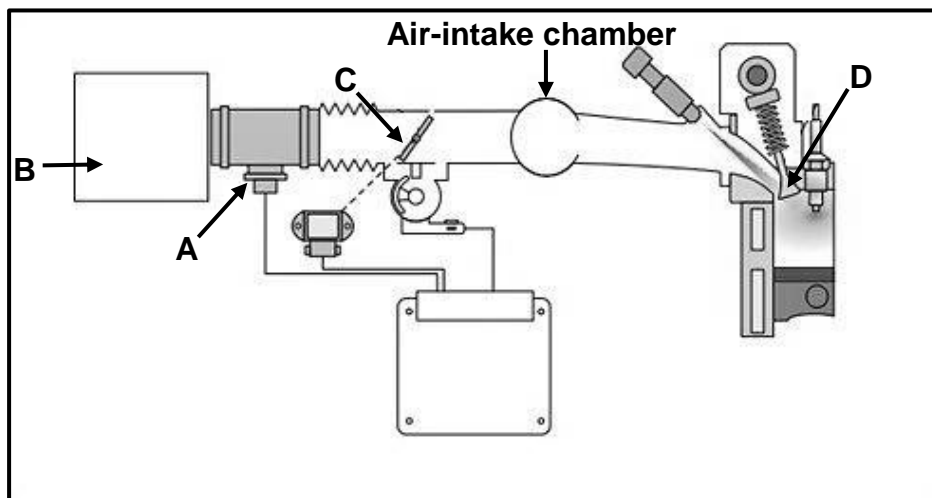

FIGURE 10.7
10.7 FIGURE 10.7 below shows an air-induction system. Answer the questions that follow.